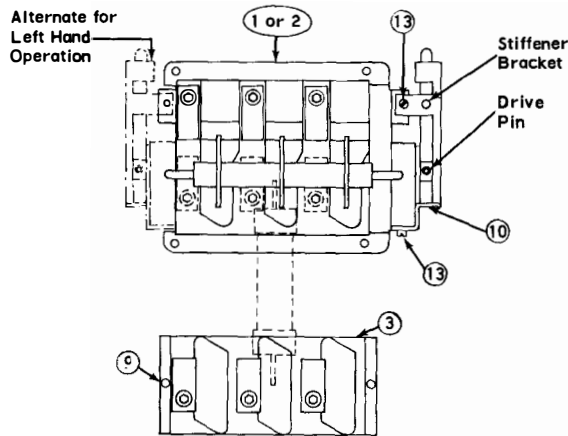

Figure 1
- Cut (1) rod assembly, item 5, for operating rod to length $(L = D - 3\frac{1}{8})$. See Fig. 5 for D dimension.) Turn drive pin so correct stamping shows above tapped hole, either R.H. (right hand) or L.H. (left hand), to correspond with side on which operating mechanism is mounted and screw rod in TEN full turns. See Fig. 1.